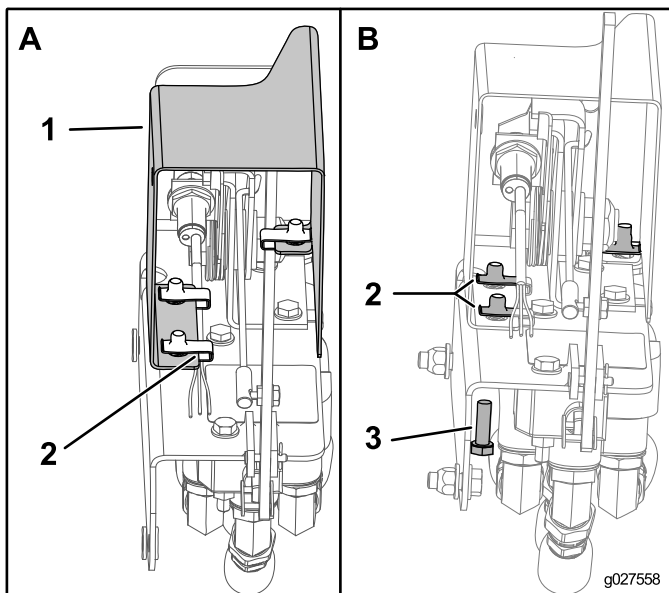

Figure 15
- Place the U-nuts onto the cover and place the cover onto the assembly as shown in Figure 15; Box A.
- Secure the cover to the assembly with the 3 bolts (5/16 inch) as shown in Figure 15; box B.